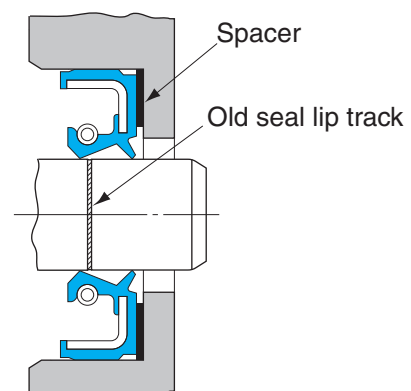

Fig. 1.7.11 Avoid old seal lip track
9) When oil seal is removed, use a new oil seal instead of the seal used. Contact position of new seal lip on the shaft should be displaced to 0.5 mm (1~2 mm for large-size seals) from the old seal lip contact position by applying spacer as illustrated below (Fig. 1.7.11).